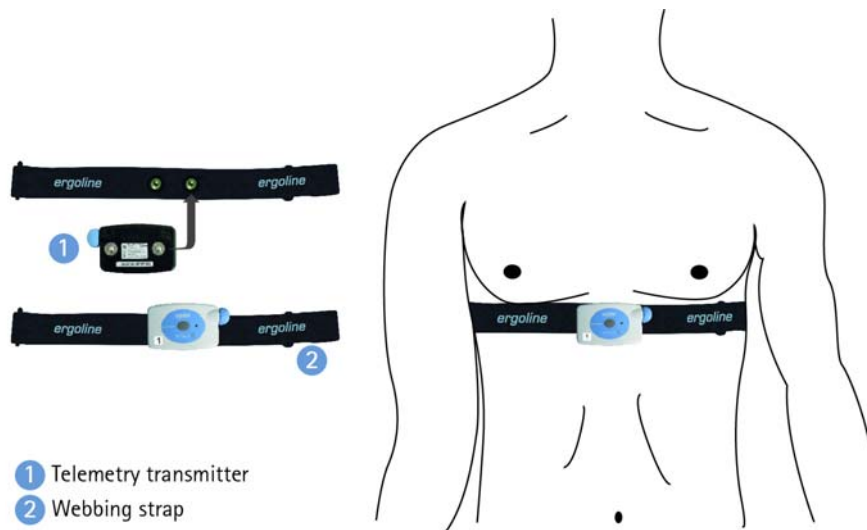

Figure 3
- Check that the ergoline logo on the 1-channel transmitter and on the chest belt is presented in the proper orientation. (Figure 3)